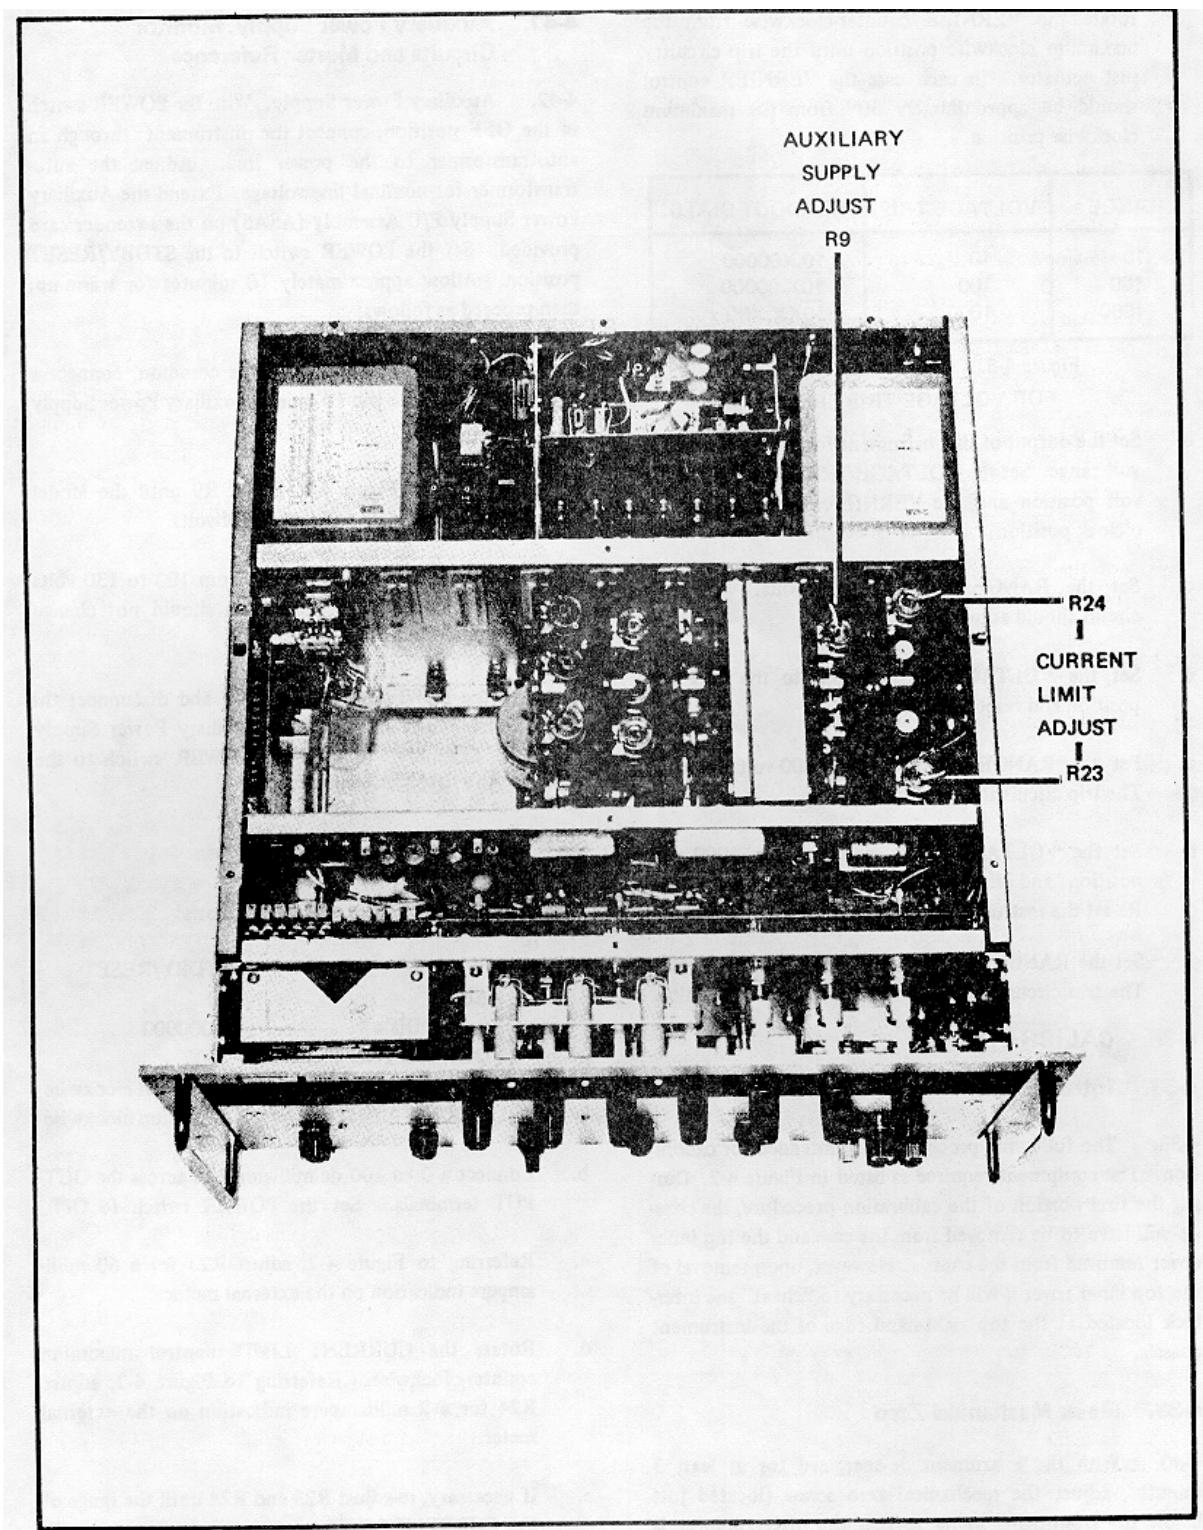

Figure 4-7. LOCATION OF ADJUSTMENTS
- b. Referring to Figure 4-7, adjust R9 until the Model 885A indicates 25 volts, ± 10 millivolts
- c. Referring to Figure 4-7, adjust R23 for a 60 millampere indication on the external meter.
- d. Rotate the CURRENT LIMIT control maximum counterclockwise. Referring to Figure 4-7, adjust R24 for a 2 millampere indication on the external meter.